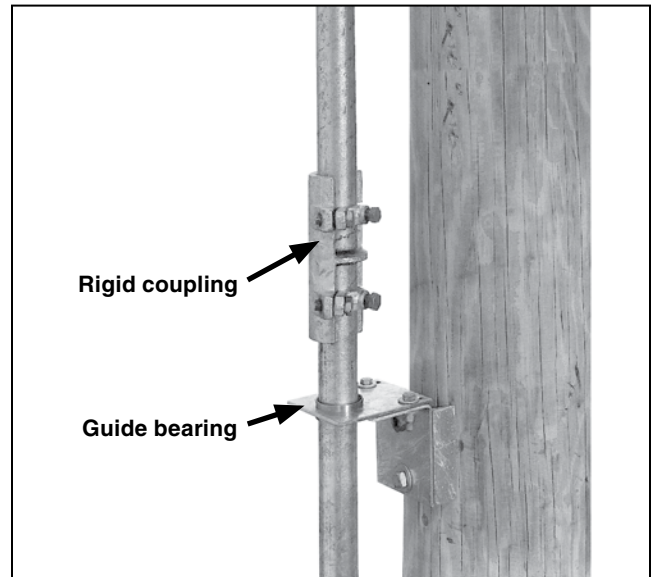

Figure 31. Install the guide-bearing assembly for additional pipe section.
STEP 28. Install a guide-bearing assembly with each additional vertical operating-pipe section, positioned in accordance with the dimension shown on the erection drawing. See Figure 31. Thrust bearings are only necessary on the uppermost guide bearing. Use rigid couplings to join these additional pipe sections. Before installing the coupling, back the piercing set screws out of the coupling body so they do not protrude into the coupling.
STEP 29. Tighten the piercing set screw of the rigid coupling immediately above the last section of pipe to final tightness, piercing the pipe. Continue tightening until a firm resistance is felt.● See Figure 31 on page 20.